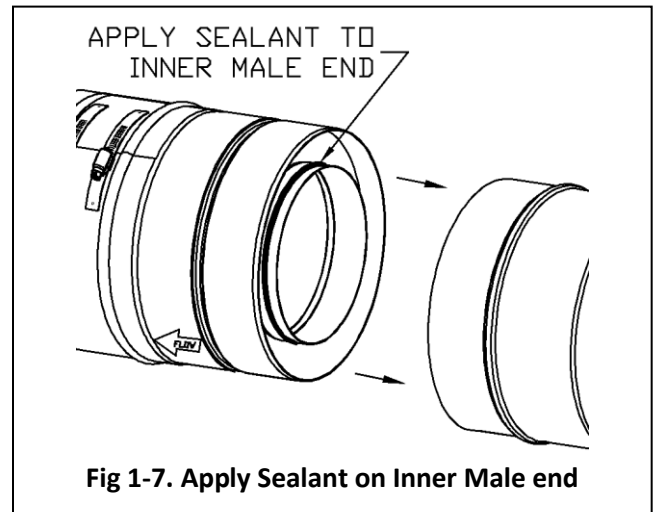

Fig 1-7. Apply Sealant on Inner Male end
3. Apply J- Sealant continuously (1/4" bead minimum) to the male end of the inner flue pipe. Sealant is to be approximately 1-1/4" from the end of pipe. (See Fig 1-7)